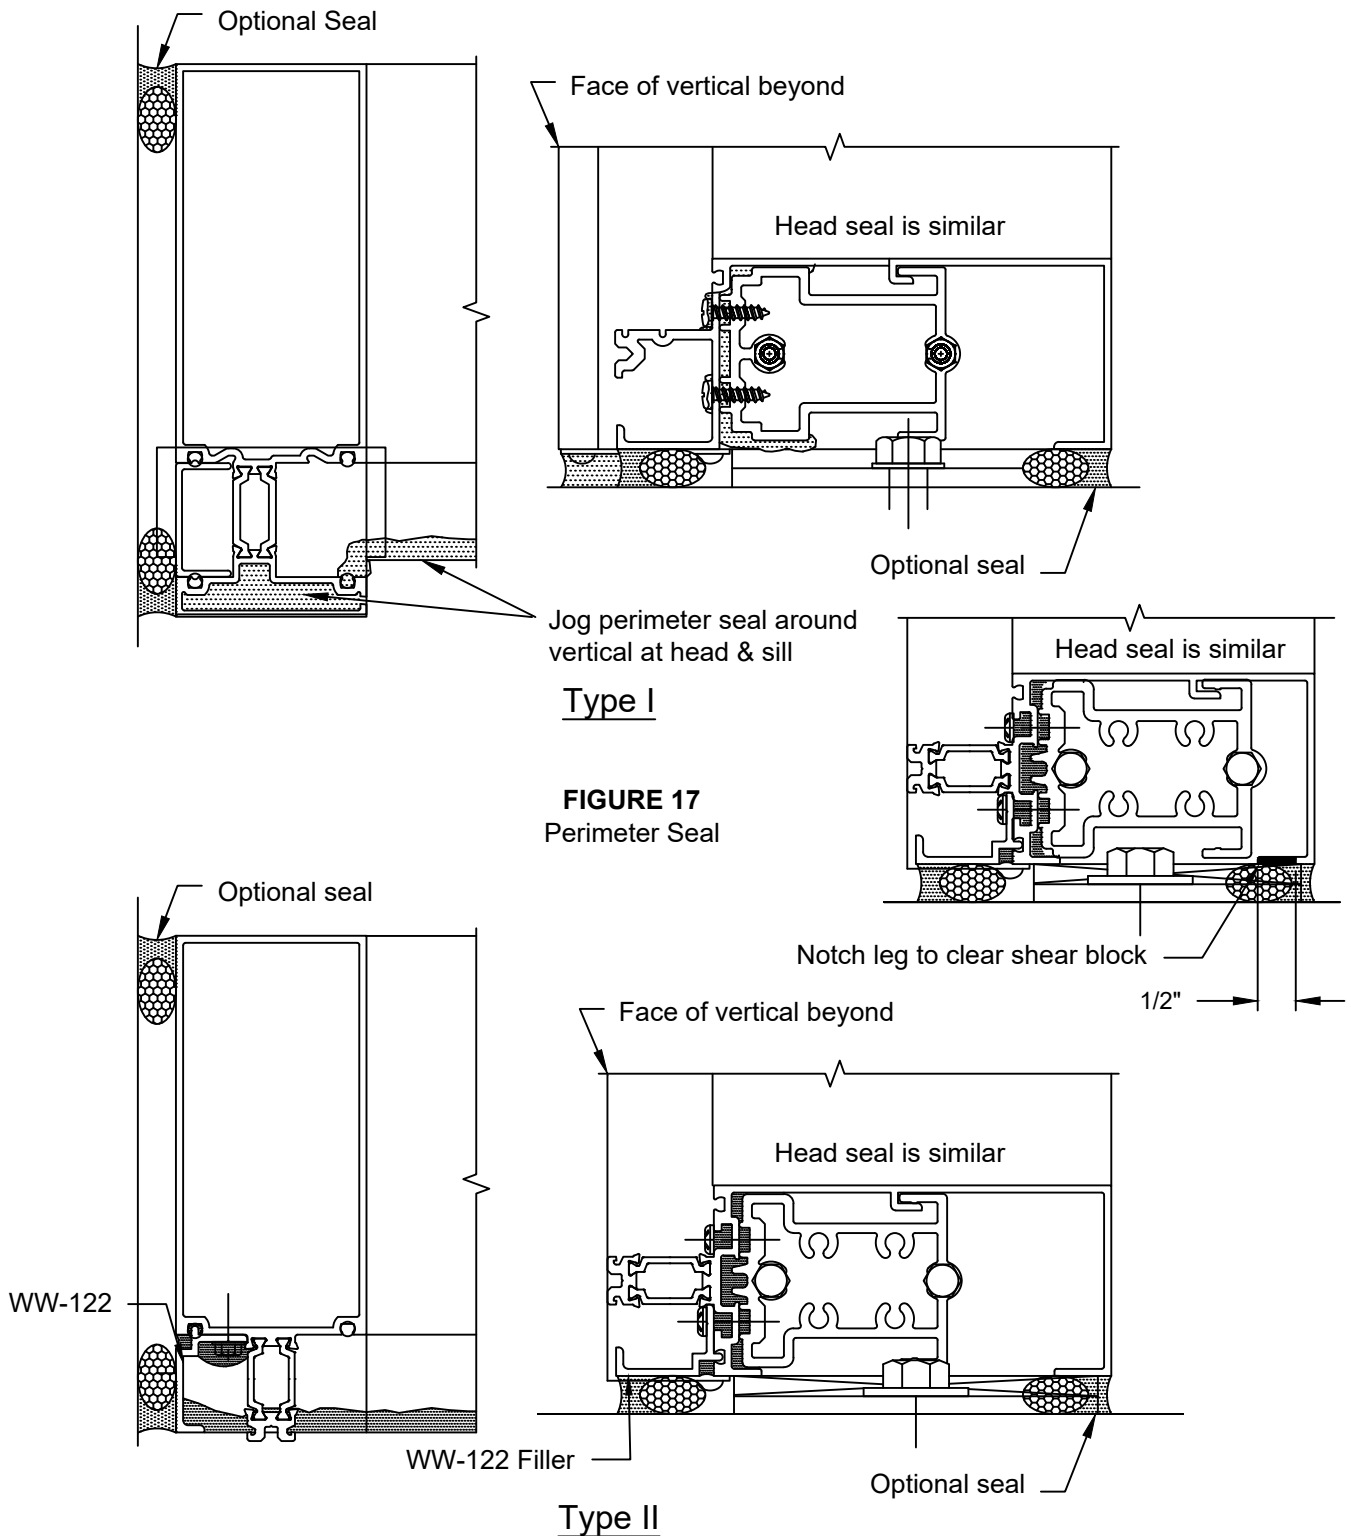

FIGURE 17
- 2.6 When all framing members are installed, apply the perimeter seal. **SEE FIGURE 17.** The interior perimeter seal is not required for system performance, but can be installed for cosmetic purposes. **Perimeter seal must be applied prior to glazing.**